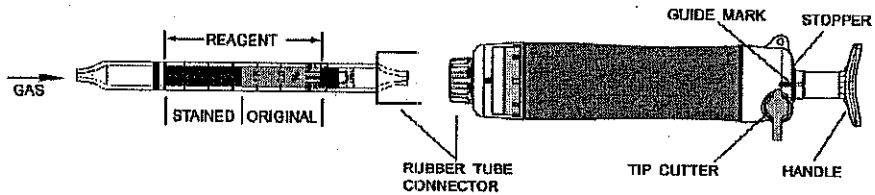

Fig.1
- ② Insert the detector tube into the aspirating pump securely as shown in Fig.1. (Arrow mark shall point to the pump.)
- ③ Align the guide marks on the shaft and stopper of the aspirating pump.
- ④ Pull the pump handle at a full stroke until it locks and wait for 1.5 minutes or until the completion of sampling is confirmed with the flow indicator of the pump (See descriptions about the flow indicator in the instruction manual of the pump).
- ⑤ On completion of sampling, read the scale at the maximum point of the stained layer.
- ⑥ When the concentrations are over the scale range, a 1/2 pump stroke can be used to determine concentrations of 1.0 to 5.0%.
- ⑦ Correct the reading value with Temperature Correction Table for Acetone (REFER TO ITEM 3. CORRECTION FOR AMBIENT CONDITIONS)